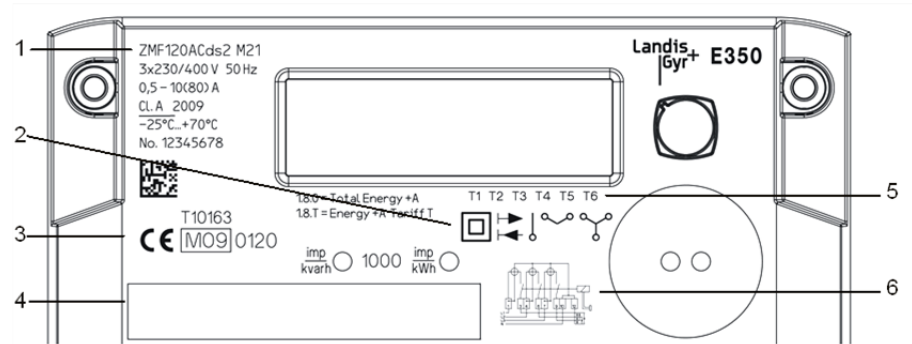

Fig. 3.2 Basic layout of faceplate
- 1 Front cover (faceplate with laser marking, for details see Fig. 3.2)